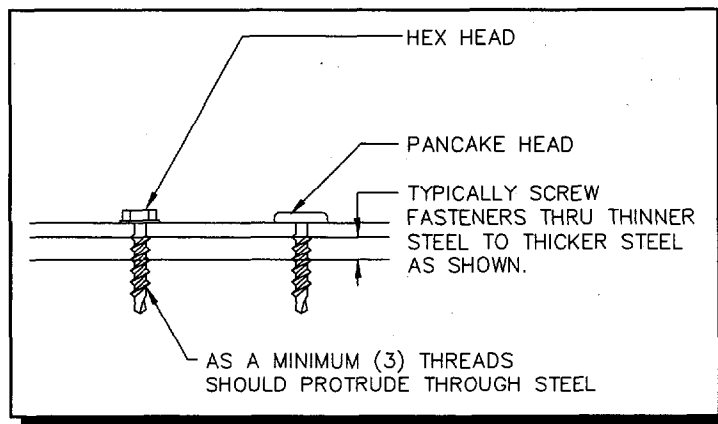

Figure 6.6. Screw Installation
- Screws should typically be driven through the thinner material and into the thicker material (see Figure 6.6) and extend through the steel member a minimum of three exposed threads.